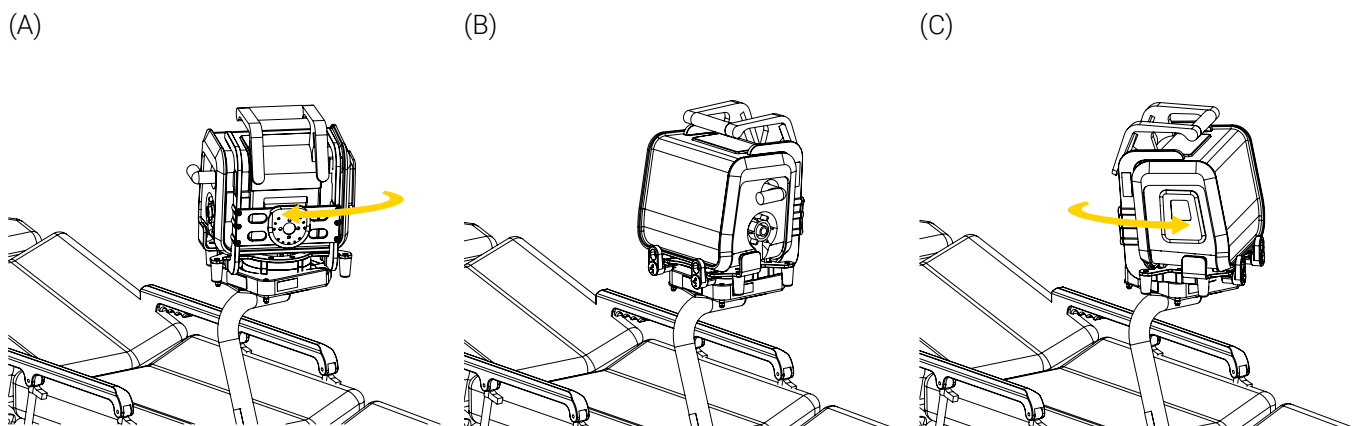

Figure 18: Rotating the medical device
4. Turn the medical device up to 360° clockwise or counterclockwise to the desired position (Figure 18).